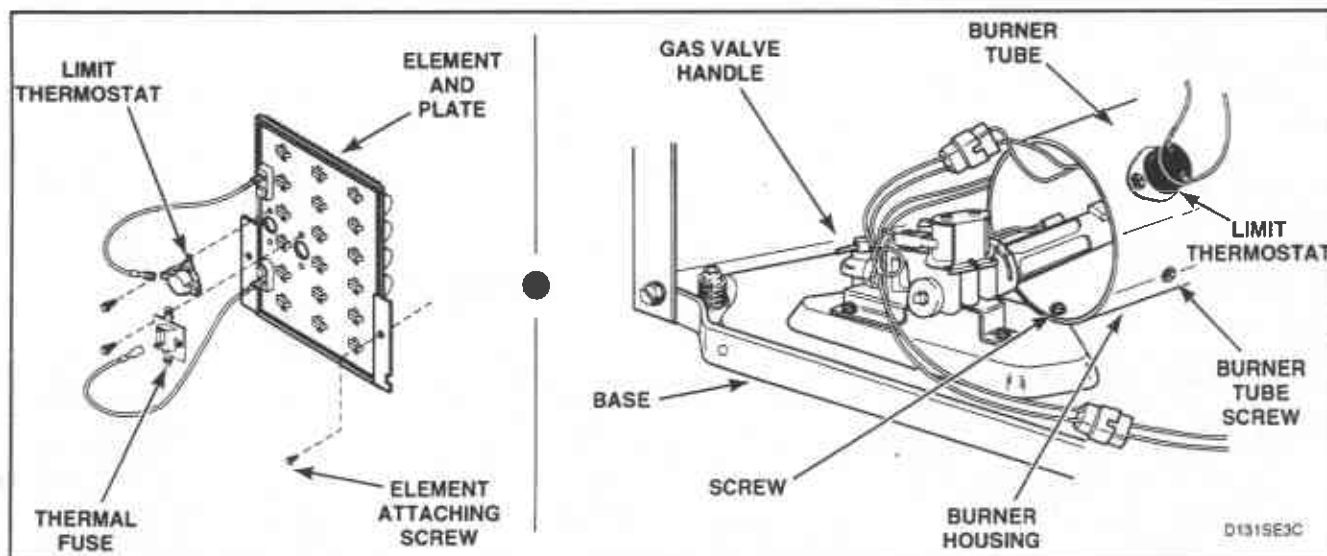

Figure 26
- (1) Remove one screw from right side of burner housing holding burner tube in place, *Figure 26*.
- Remove screw from right side of burner housing, while holding burner tube in place, *Figure 26*.
- Remove screw holding front of burner housing to dryer base and remove housing out through front of dryer, *Figure 26*.
- Disconnect wires and remove screws attaching limit thermostat to burner housing or element plate, *Figure 26*.
- Remove two screws holding element and plate to heater box and pull element down and away from heater box, *Figure 26*.
- Disconnect wires from element and plate, *Figure 26*.
- Remove screws holding thermostat and thermal fuse to element and plate, *Figure 26*.
- e. Disconnect wires from thermostat/thermistor and heater, *Figure 26*.